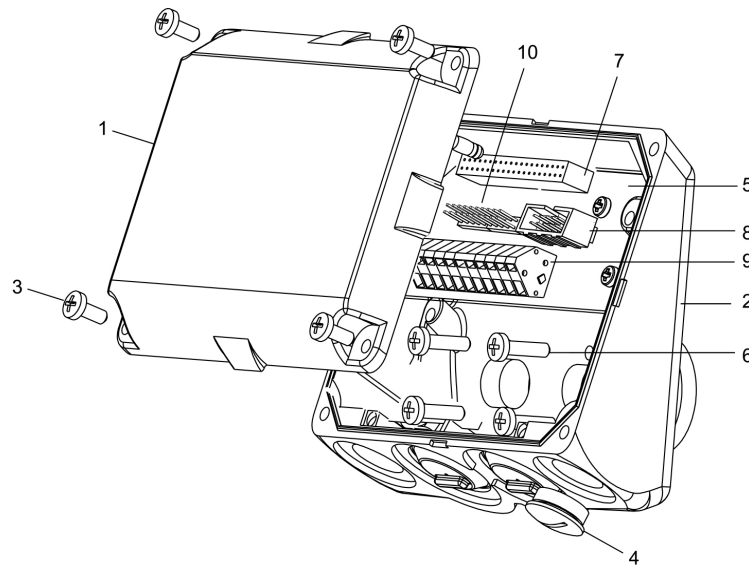
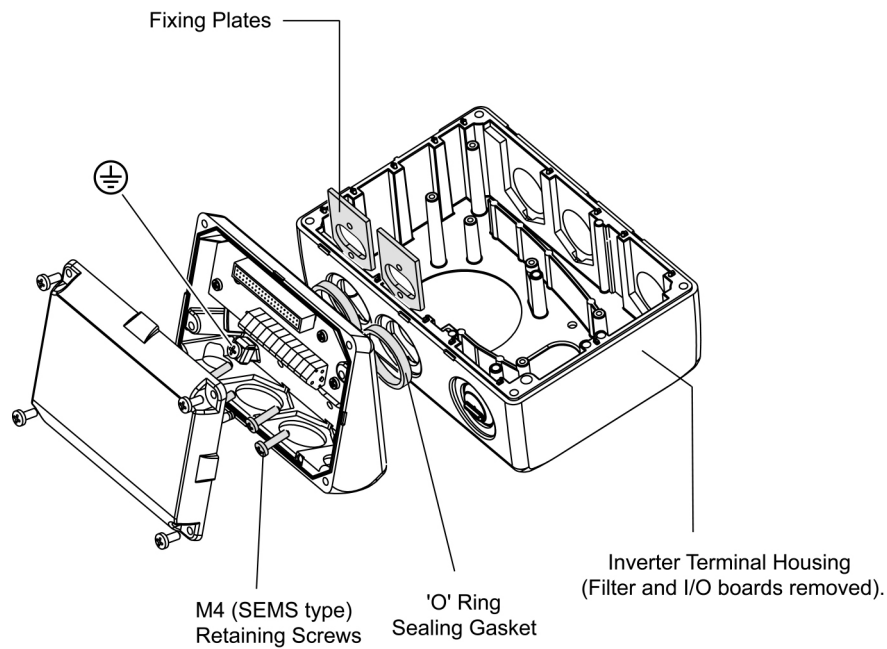
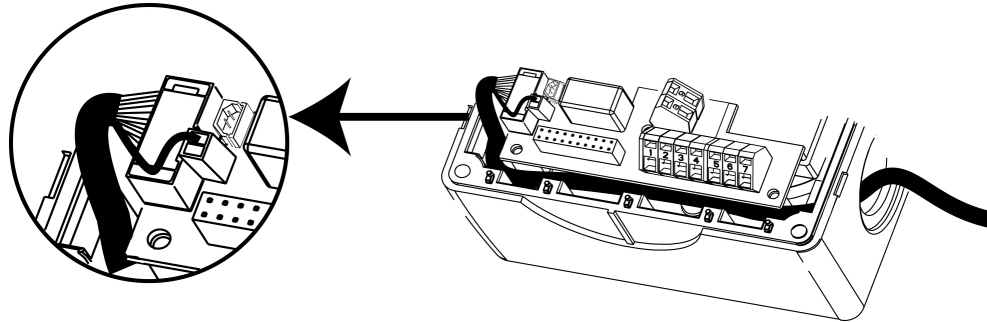

Figure 4-5 PROFIBUS Module Layout
Figure 4-6 PROFIBUS Module Fixing to Inverter
Figure 4-7 Fitting the Communications Cable
1. Unscrew the four cover retaining screws (3) (see Figure 4-5).
2. Carefully detach the module cover from the base (2).
3. Insert the O ring sealing gaskets (see Figure 4-6).
4. Align the Options case with the Fixing plates (See Figure 4-6).
5. Fasten the Options module base to the fixing plates using the retaining screws (6) (see Figure 4-5).
6. Feed the supplied comms link cable between the PROFIBUS comms socket (8) (see Figure 4-5) and the corresponding comms socket on the inverter I/O board (see Figure 4-7).
7. Terminate the comms link cable screening lead on the Inverter I/O board (see Figure 4-7).
10. Using the U-clamp and screw, connect the earth lead (attached to the fixing plate) to the earth stud (shown as \oplus in Figure 4-6) within the module housing.
18. Align the corresponding sub-assemblies so that the opposing sections of the in-line pcb connector (7) mate (see Figure 4-5).
19. Apply a gentle pressure until the lid (1) is firmly closed.
20. Secure the lid via retaining screws (3) at each corner.
The cable screening lead on the cable should be connected to the I/O board (see Figure 4-7).